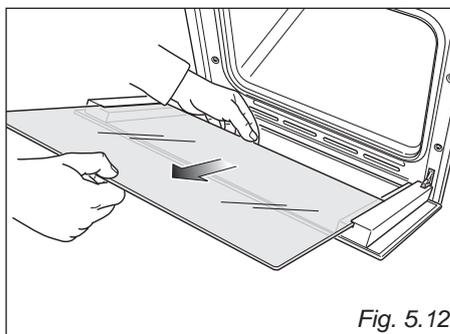

Fig. 5.12
- Gently pull out the inner pane of glass (fig. 5.12).